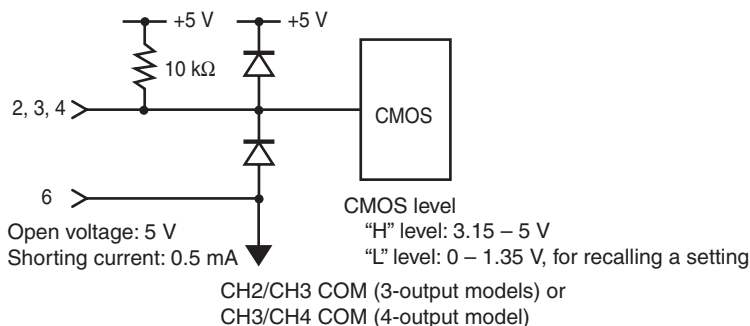

Fig. 5-7 Equivalent circuit
- Fig. 5-7 shows an equivalent circuit of terminals 2, 3 and 4 of the J1 terminal block.